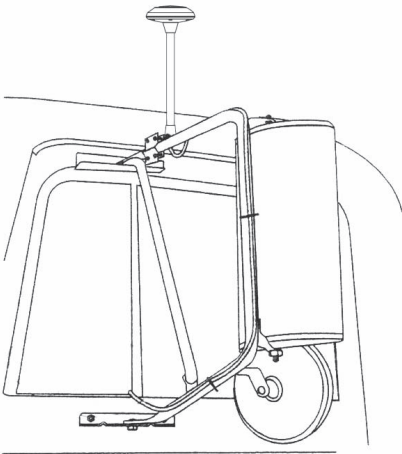

Figure 4. Mirror Mount Cable Routing
16. Route the cable through the vent window of the truck cab. Again DO NOT BEND the cable at 90 degree angles as this will break the coax center conductor causing the satellite receiver not to receive the satellite radio broadcast. See Figure 4.